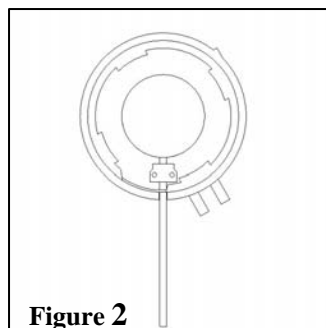
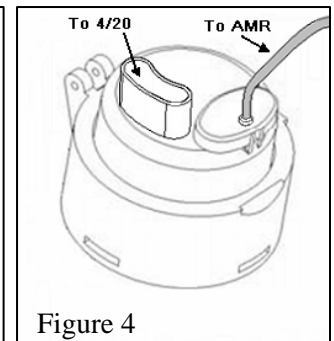

Figure 2
Figure 4
Place the tabs of the register box insert into the four corresponding tabs of the register box. Make sure the meter locking tabs are on the bottom and the locking pin holes of the insert and register box are aligned. The aluminum clamp on the underside of the FT1 should be exposed as shown in Figure 2. Connect the register to the meter and install the locking pin.
**Connecting to the meter** Connection to the Pulser Unit from the frequency Transmitter (FT) at the meter is made via the three pole screw terminal in the lower right labeled “METER”. The red wire from the FT is the positive wire, the black or blue wire is the negative wire, and the third wire is the signal wire. For the FT1, the FT wire extends from the underside of the register housing, as seen in Figure 2. For the FT2/FT3, the FT wire extends from the black well on the upper left of the register face, as seen in Figure 4.